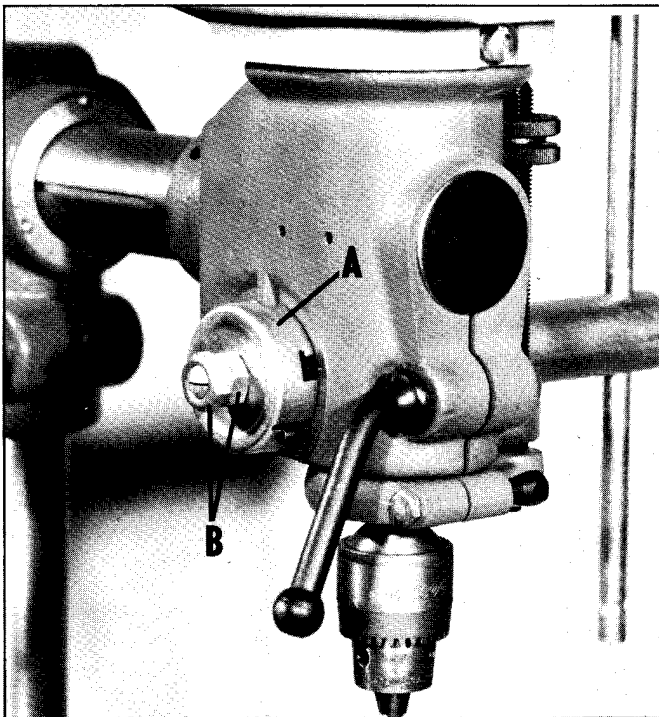

Fig. 21
For the purpose of automatically returning the spindle upward after the hole has been drilled, a clock spring is provided in the case (A) Fig. 21. This spring has been properly adjusted at the factory and the adjustment should not be disturbed unless absolutely necessary. NOTE: Before determining if this adjustment is necessary, make sure the stop rod runs freely up and down and is not twisted in the slot or guide of the head casting. To adjust the spindle return spring, proceed as follows:
1. Loosen the hexagon nuts (B) Fig. 21, and back them off about 1/8" from the spring case (A) for clearance.
2. Grip the case (A) Fig. 21, firmly, to hold the spring tension, and while pulling the case away from the lugs on the left side of the head casting, rotate the case 1/4 turn and slip the next pair of notches over the lugs. The spring case is turned counterclockwise to tighten and clockwise to loosen.
5. When proper tension is obtained, turn the inner hexagon nut (B) Fig. 21, lightly against the spring case (A), but not tight enough to cause binding. Lock it in position by means of the outer nut, using two wrenches to join them together.